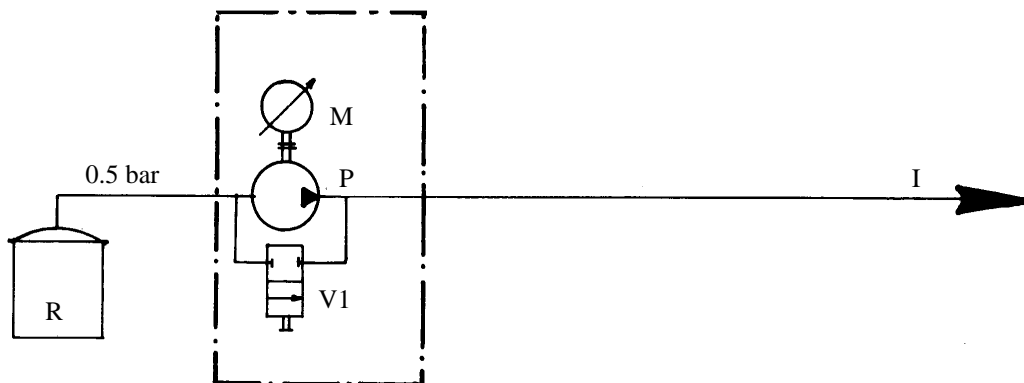

Figure 7
The different models are shown in figs. 7, 8, 9 and 10.
5.1. ASSEMBLY WITH PUMP BY-PASS VALVE (SEE FIGURE 7)
- Considering the length of the paint supply ducts between the pump and the atomizer, and of the return circuit, loss of product and solvent during circuit rinsing is greater than in **figure 7**.